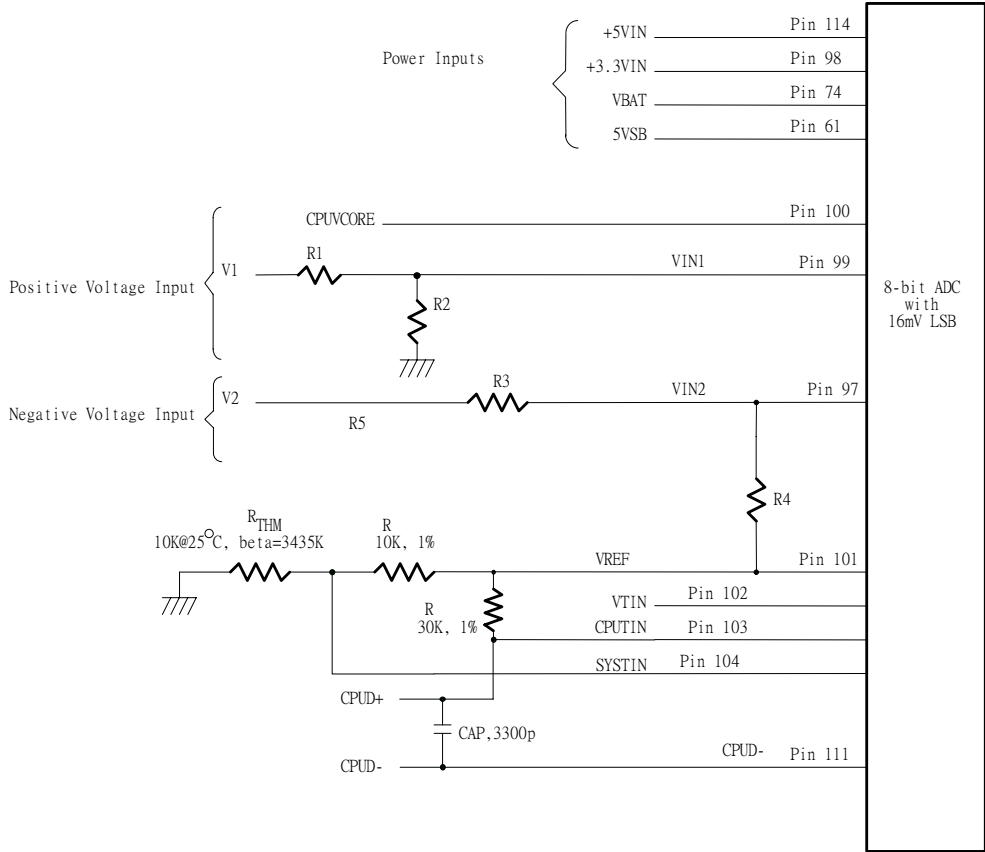

Figure. 6.2
The maximum input voltage of the analog pin is 4.096V because the 8-bit ADC has a 16mv LSB. Really, the application of the PC monitoring would most often be connected to power suppliers. The CPU V-core voltage, +3.3V, battery(pin 74) and 5VSB voltage can directly connected to these analog inputs. The +12V voltage inputs should be reduced a factor with external resistors so as to obtain the input range. As Figure 6.2 shows.
The W83637HF can connect three thermistors to measure three different envirmnt temperature. The specification of thermistor should be considered to (1)  $\beta$  value is 3435K, (2) resistor value is 10K ohms at 25°C. In the Figure 6.2, the themistor is connected by a serial resistor with 10K Ohms, then connect to VREF (Pin 101).